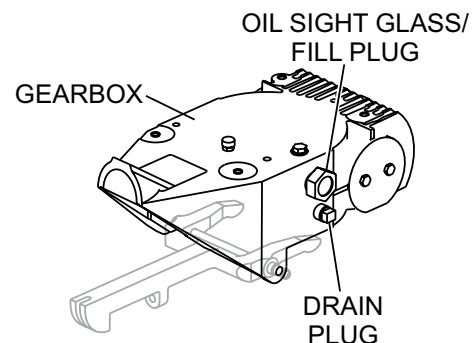

Figure 31. Gearbox
1. Determine if the gearbox oil is low by removing the oil plug located on the side of the gearbox. (Figure 31) This plug will be marked by the "check" decal. The correct level of the lubrication oil should be to the bottom of the fill plug.